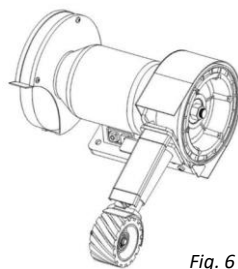

Fig. 6
3. Once completed, it should resemble Fig. 6.